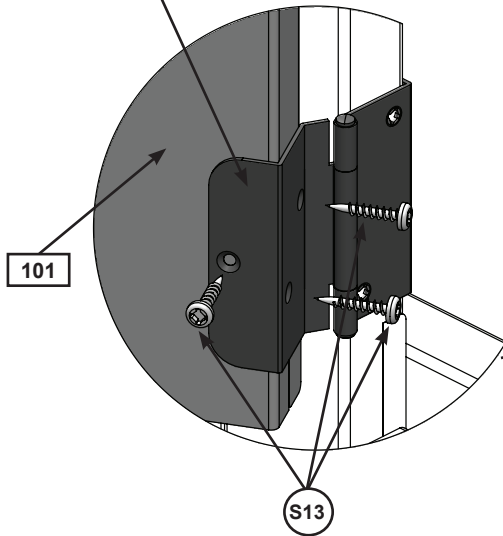

Fig. 10.9
F: With a helper, hold each (101) Door in place making sure that there is a 5/8" (1.59cm) gap between the (101) Door bottom and the (025) Bottom Door Stop Panel. Attach to the Door Hinges using 3 (S13) #6 x 5/8" Pan Screws per hinge. (Fig. 10.9, 10.10, 10.11, and 10.12)